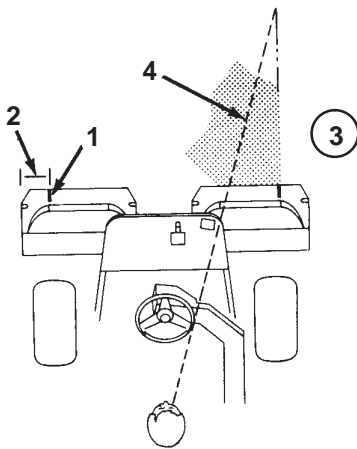

Figure 30
2. Either place a strip of white tape or paint a line onto each basket paralleling the outer edge of each basket (Fig. 30).
3. Overlap a minimal amount with the previous cut on return passes. To assist in maintaining a straight line across the green and keep the machine an equal distance from the edge of the previous cut, establish an imaginary sight line approximately 6 to 10 ft. (1.8 to 3 m) ahead of the machine to the edge of the uncut portion of the green (Fig. 30 and 31). Some find it useful to include the outer edge of the steering wheel as part of the sight line; i.e. keep the steering wheel edge aligned with a point that is always kept the same distance away from the front of the machine (Fig. 30 and 31).